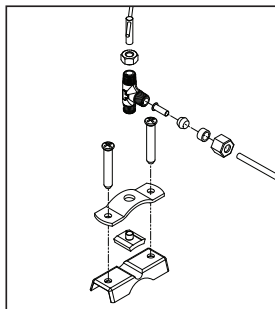

FIGURE 3
- Assemble the saddle valve included in the Wave installation kit (*figure 3*).